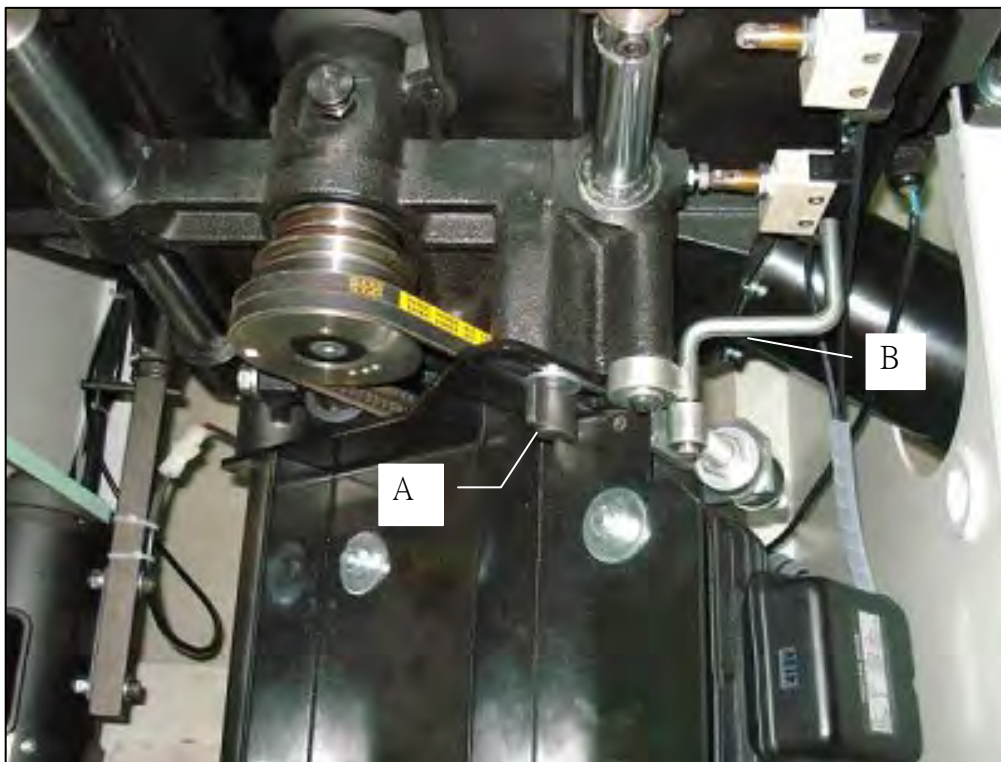

fig 4-5.1
- Loosen knob A(fig 4-5.1)
- Lift lever B(fig 4-5.1) of belt stretcher to the end of stroke, then tighten knob A(fig 4-5.1) the belts are slack and may be replaced
- Move lever B(fig 4-5.1) of belt stretcher to iniiial position ( that is totally down) to stretch the belts
- Tighten knob A(fig 4-5.1)